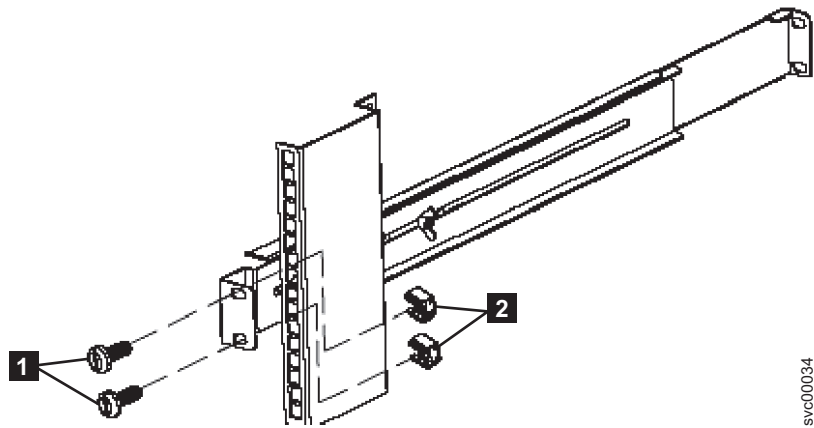

Figure 10. Securing the rear rail on the 2145 UPS-1U
6. Using two M6 × 10 screws (**1** in Figure 10) and two clip nuts (**2**), attach the rail to the rear of the rack. The customer's rack might be different than the one shown here, and if so, might require different clip nuts or fasteners.